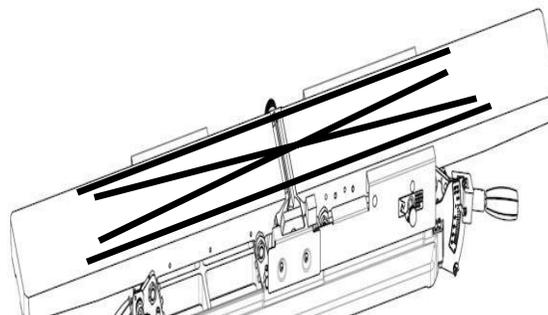

Figure 40: Verification of parallelism/coplanar
STEP 6: Remove infeed table depth stop release knob and infeed table cover, loosen set screws and place straight edge across infeed and outfeed tables as in **FIG. 40**, and adjust eccentric bushings under infeed table as STEP 4 for outfeed table.
STEP 6: Remove infeed table "depth stop release knob" and infeed table cover, loosen set screws and place straight edge across infeed tables as in Fig. 40, and adjust eccentric bushings under infeed table (as in Step 4) for outfeed table.
STEP 7: Verify parallelism in each position as in Fig. 40 confirm eccentric bushings are snug and tighten set screws in eccentric bushings on infeed table.